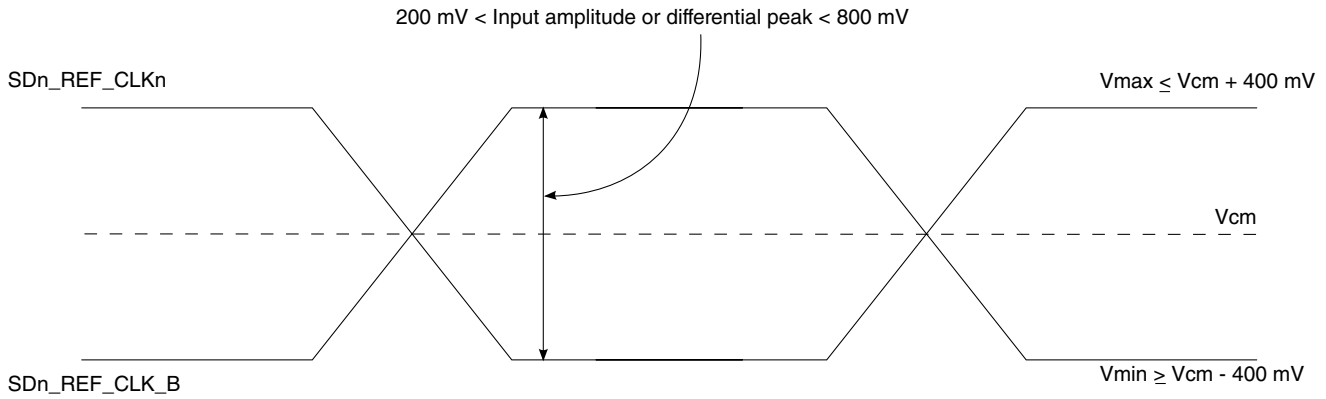

Figure 35. Differential reference clock input DC requirements (external AC-coupled)
- For an external AC-coupled connection, there is no common mode voltage requirement for the clock driver. Because the external AC-coupling capacitor blocks the DC level, the clock driver and the SerDes reference clock receiver operate in different common mode voltages. The SerDes reference clock receiver in this connection scheme has its common mode voltage set to $SGNDn$. Each signal wire of the differential inputs is allowed to swing below and above the common mode voltage ($SGNDn$). Figure 35 shows the SerDes reference clock input requirement for AC-coupled connection scheme.